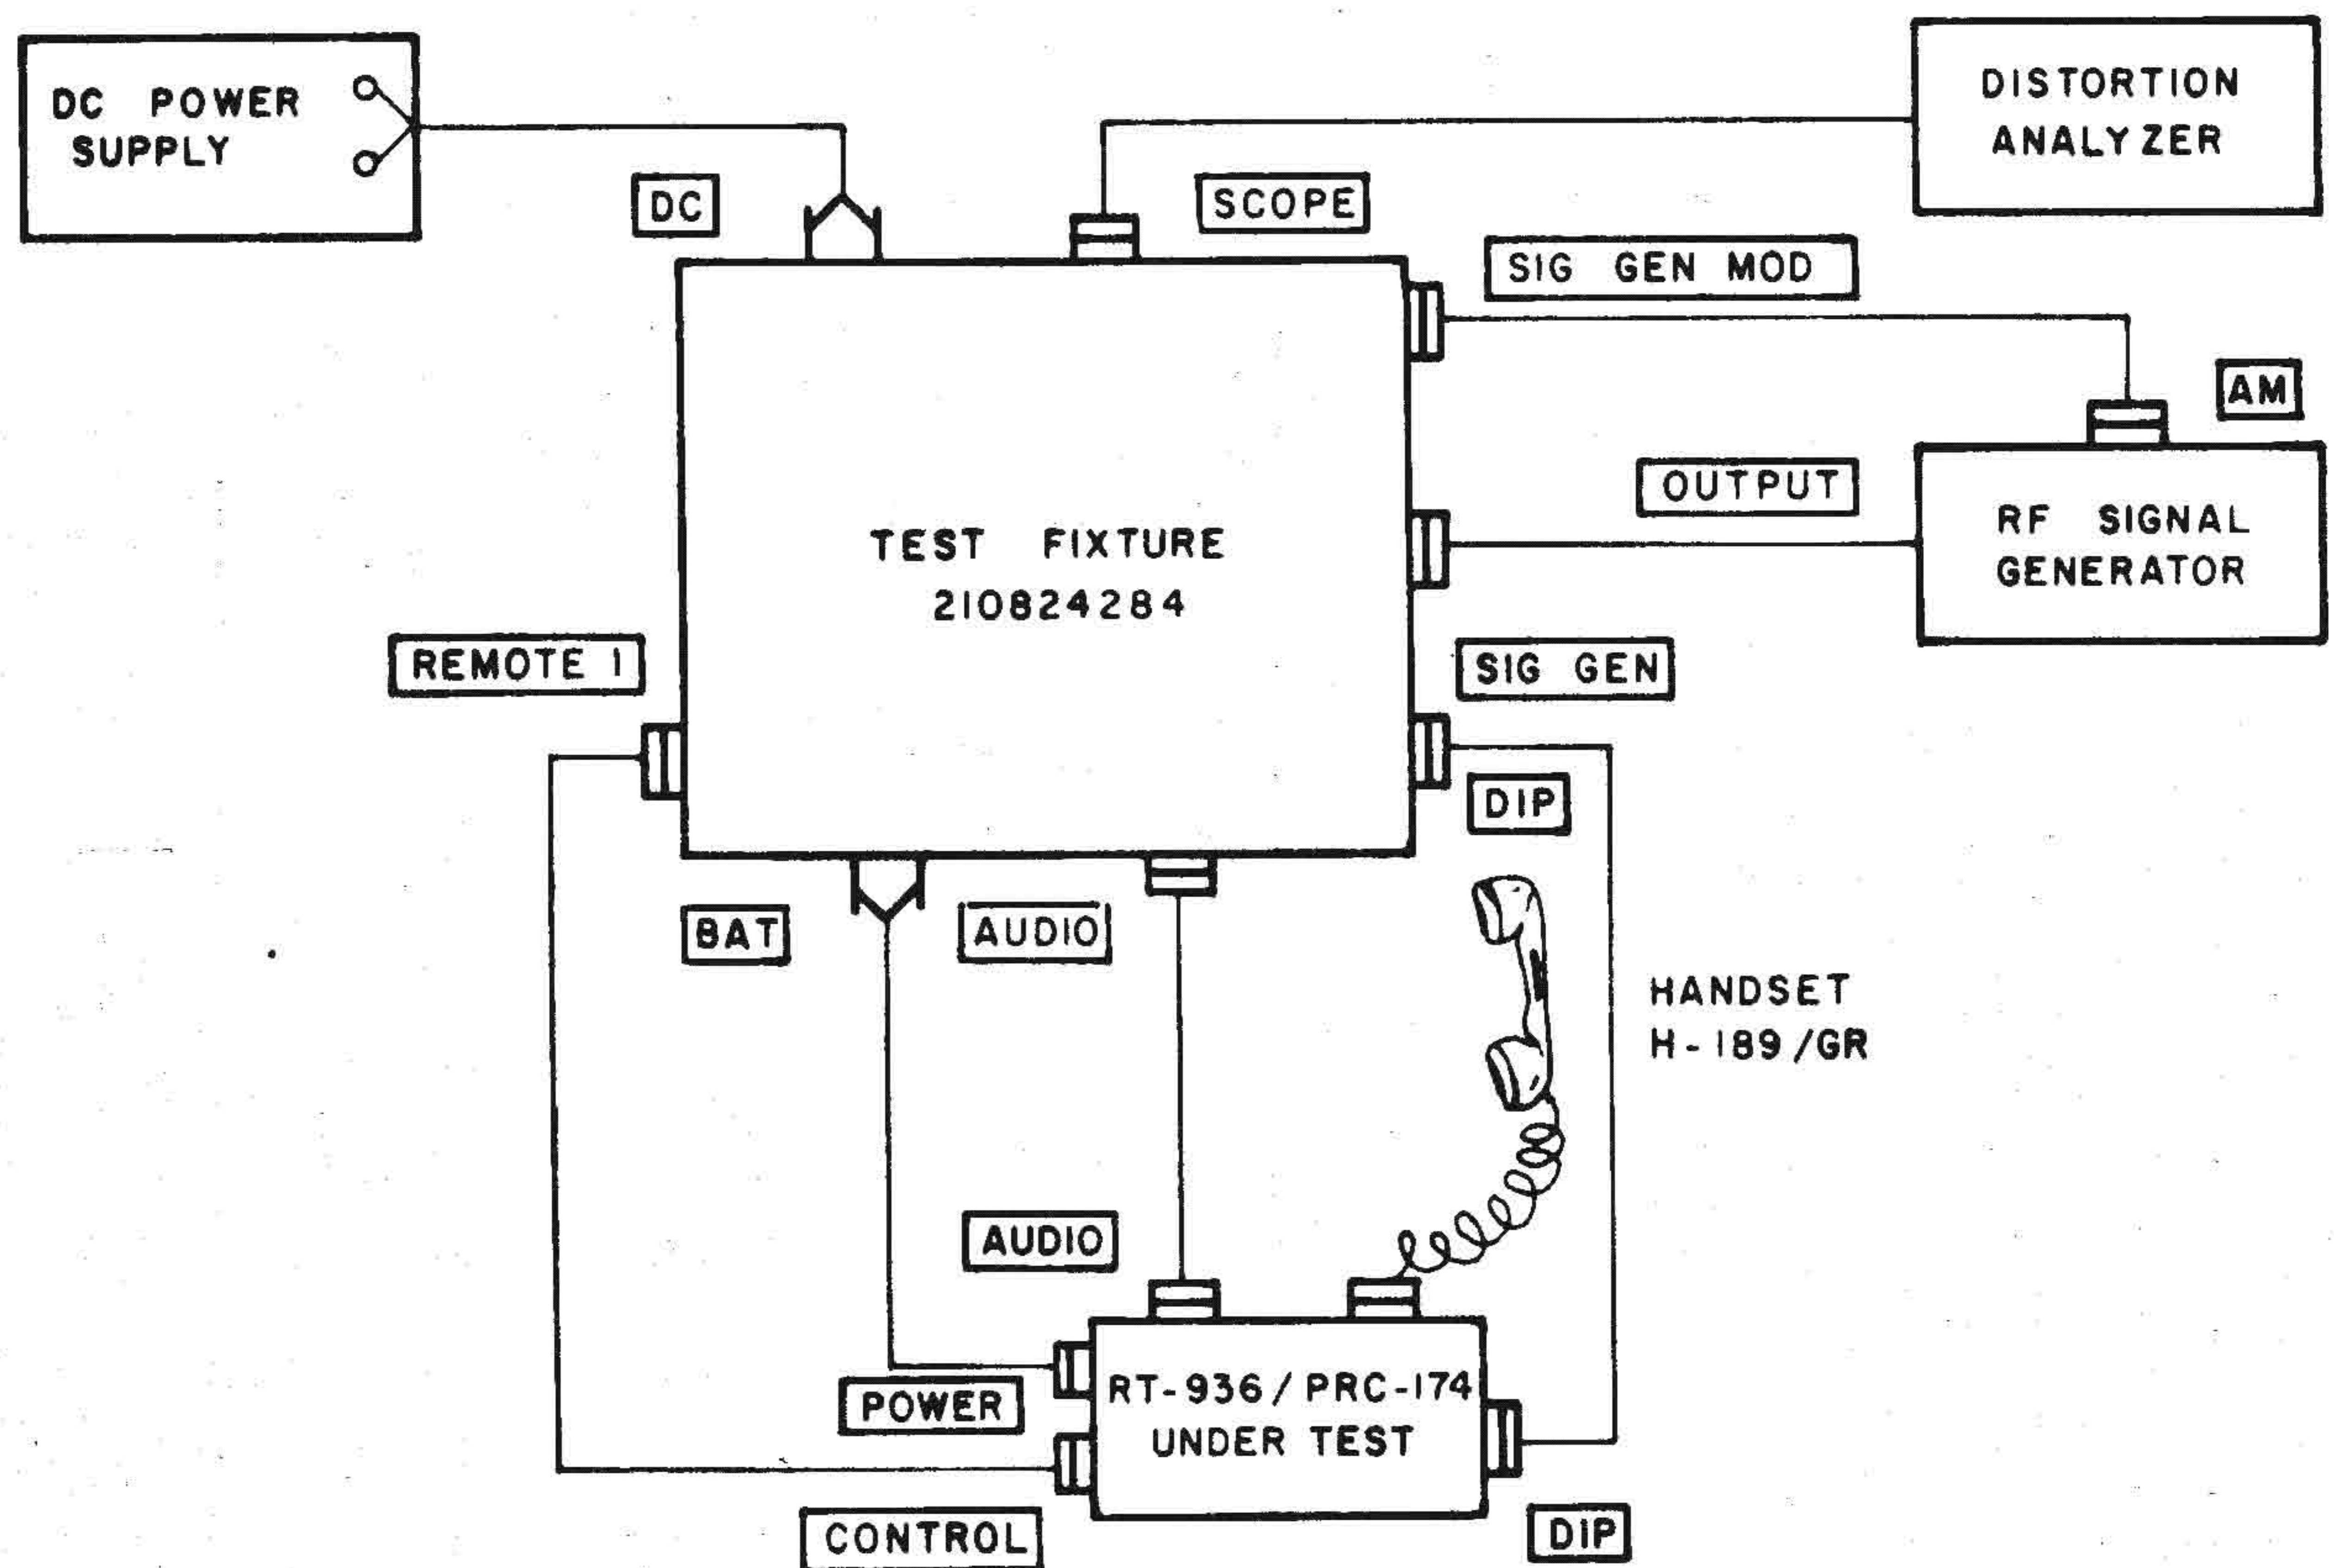

Fig. 4-10. Squelch Test and Adjustment Setup
| 5 | Squelch a. Measurement | <p>ON/OFF : ON</p> <p>MODE : SSB</p> <p>R/T : R/USB</p> <p>BAT : IND</p> <p>LOCAL/REM: REM</p> <p>PA/CBP : PA</p> <p>MN/BP : MN</p> <p>ALC/1kHz VAR : 1 kHz VAR</p> <p>WHIP/DIP : DIP</p> <p>FREQUENCY: 16.0000</p> <p>SCOPE : PHONE</p> <p>MOD : 60%</p> | <p>(1) Use the test setup shown in fig. 4-10.</p> <p>(2) Tune the signal generator to 16.00050 MHz and adjust it to obtain a 0.7 microvolt test signal, modulated 55% by the external modulation signal provided by the test fixture. Use DC coupling at the external AM input.</p> <p>(3) Listen to the handset.</p> | <p>N/A</p> <p>N/A</p> <p>A 500-Hz tone, modulated in amplitude by a 5-Hz tone should be heard.</p> |